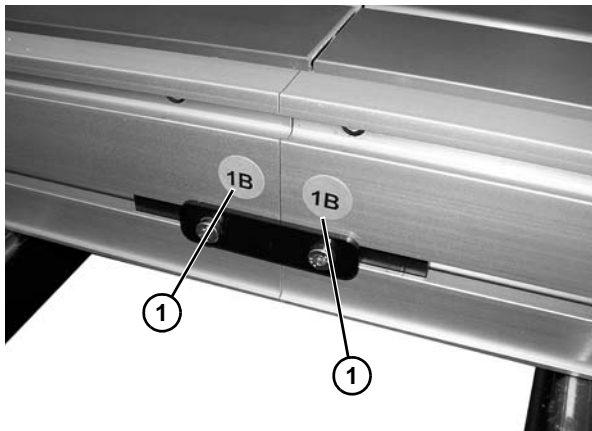

Figure 11
1. Locate and arrange conveyor sections by section labels (**Figure 11, item 1**).